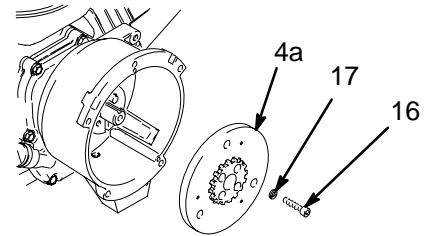

Fig. 9 8704A
8. Fig.9. Use an impact wrench or wedge something between armature (4a) and clutch housing to hold engine shaft during removal.
9. Remove four screws (16) and lockwashers (17).